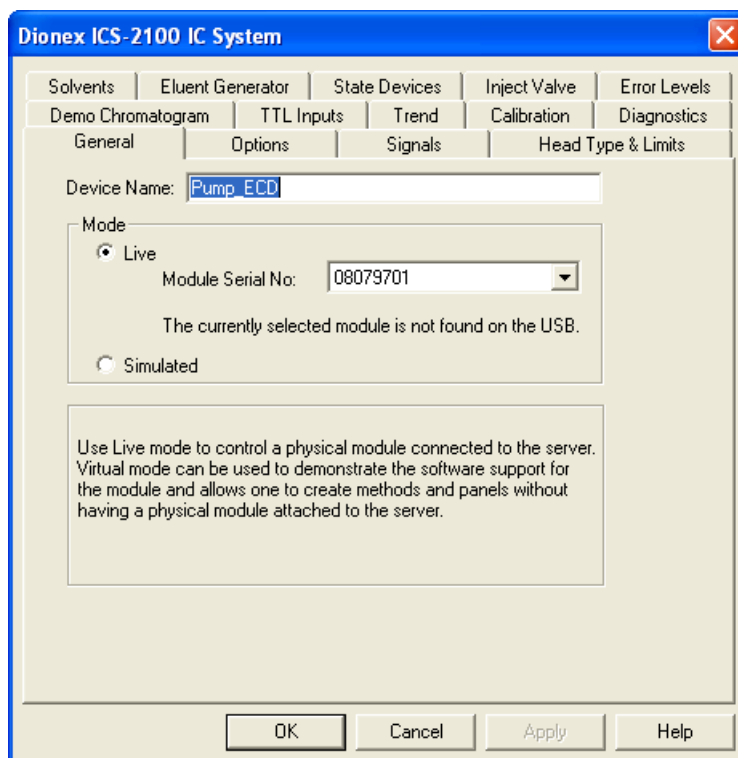

Figure 18. Example Properties Dialog Box: General Tab Page)
9. Click the arrow next to **Module Serial No.** In the list, select the serial number of the system you are configuring (see Figure 18).